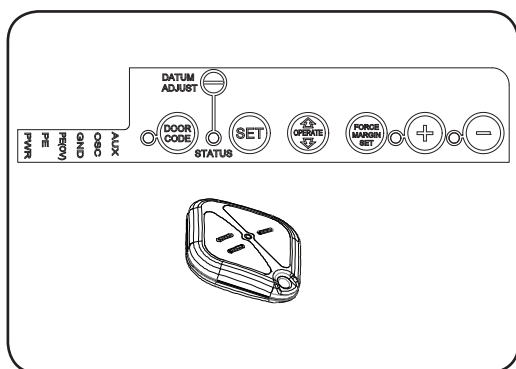

Fig. 34
- Press the same transmitter button again. The DOOR CODE LED will illuminate for one second and then go out, and the courtesy light will also switch off. This indicates the code has been stored (Fig. 34).